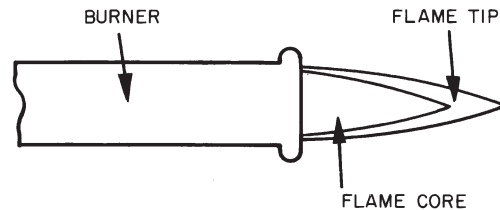

Fig. 187 — Proper Flame Appearance
1. The burner flame should be predominately blue in color, and well-defined and centered at the tube entry as shown in Fig. 187. Distorted flame or yellow tipping of natural gas flame, or a long yellow flame on propane, may be caused by lint and dirt accumulation inside burner or at burner ports, at air inlet between burner and manifold pipe, or debris in the main burner orifice. Soft brush or vacuum clean affected areas.
3. Check the appearance of the burner flame. See Fig. 187 on page 220.